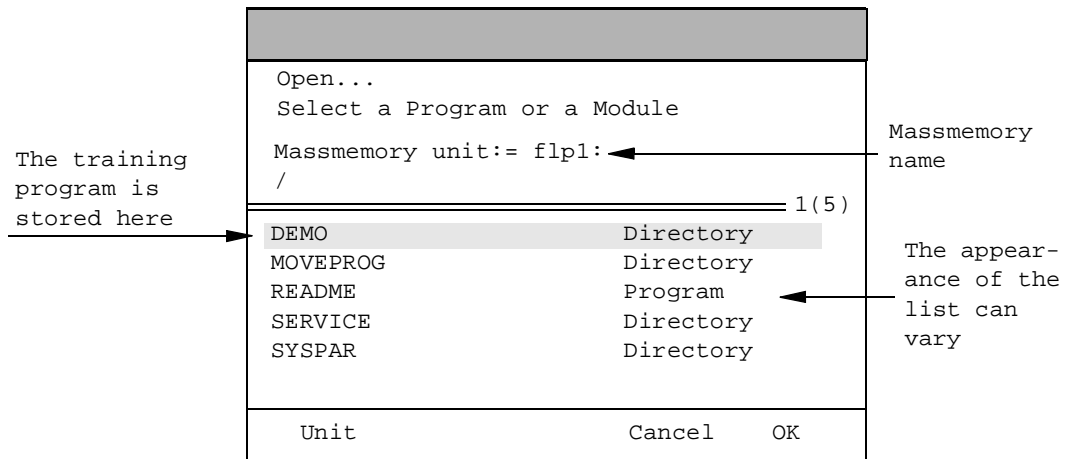

Figure 30 The Open dialog box.
- Press **Unit**. Check that "flp1:" appears after Massmemory unit:=. A dialog box will appear and the contents of the diskette will be shown, as in Figure 30.